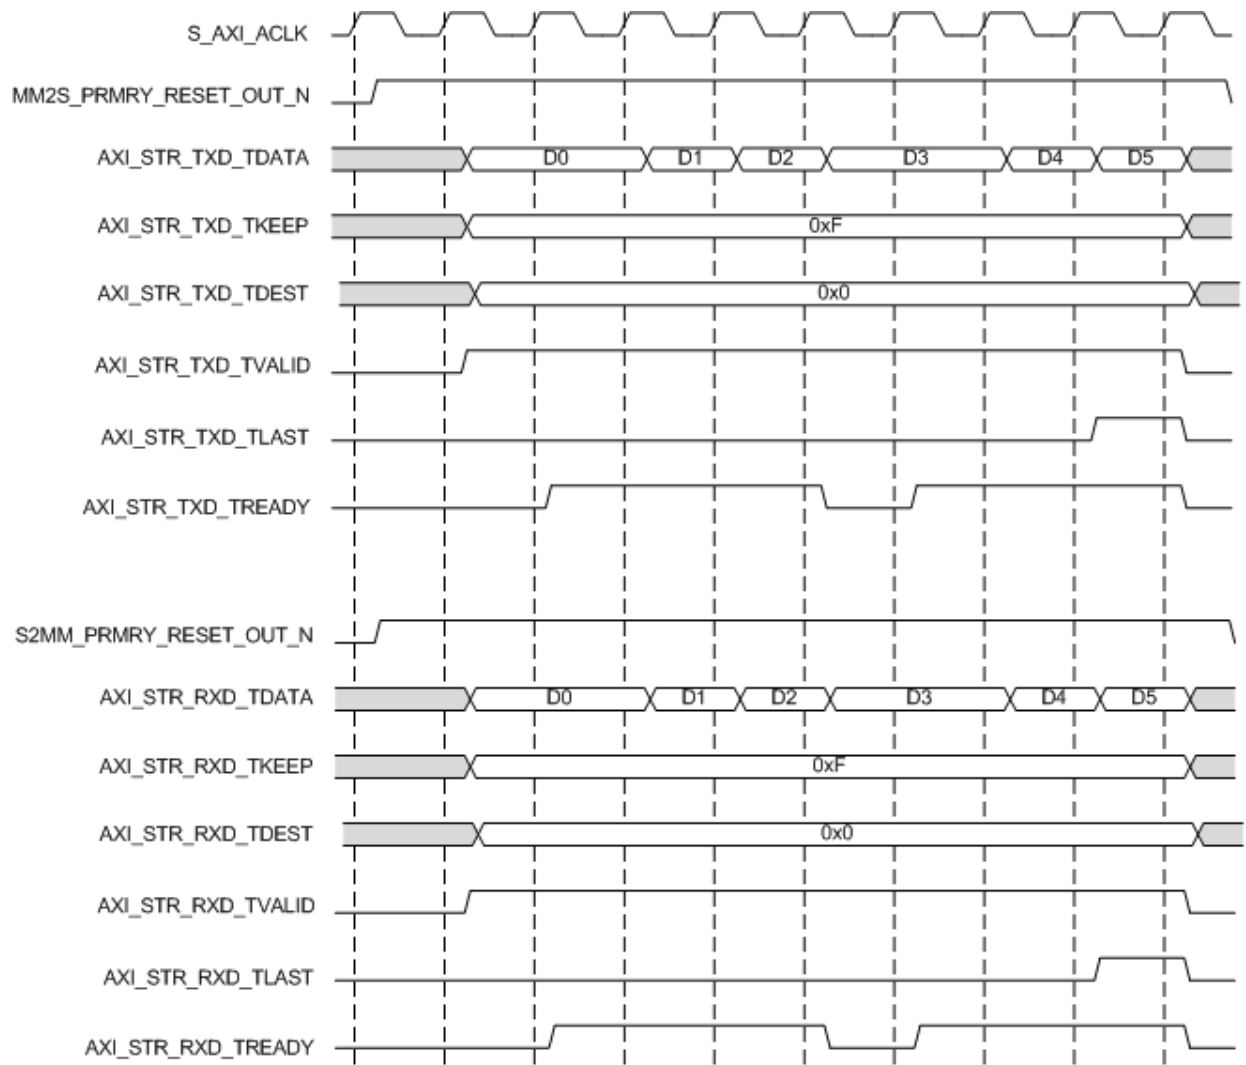

Figure B-2: AXI4-Stream Transmit
- Check that the AXI4-Stream waveforms are being followed. See Figure B-2.